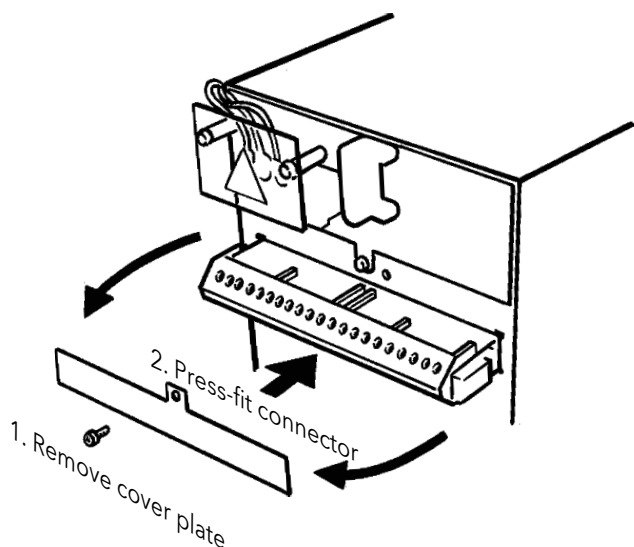

Figure 7 Remove blanking plate and fit connector block
12. Remove relevant blanking plates and push fit the connectors until they click into place. Each connector has orientation lugs to prevent insertion the wrong way up. Figure 7 shows this process for option board slots 1 and 2. Clip the screwdriver guide into place, and fit the appropriate label to each connector (23 to 44 for the middle connector; 45 to 66 for the top connector).